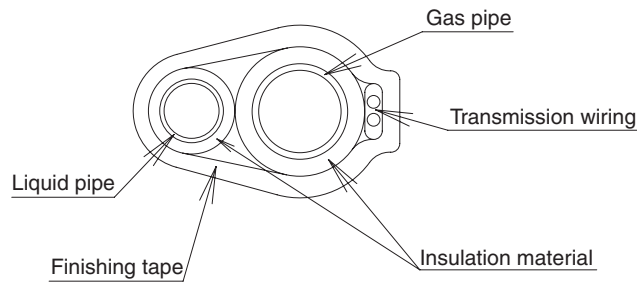

figure 25
- Outside the units, the transmission wiring must be finished simultaneously with the local refrigerant piping, and wound with tape (field supply) as shown in figure 25.